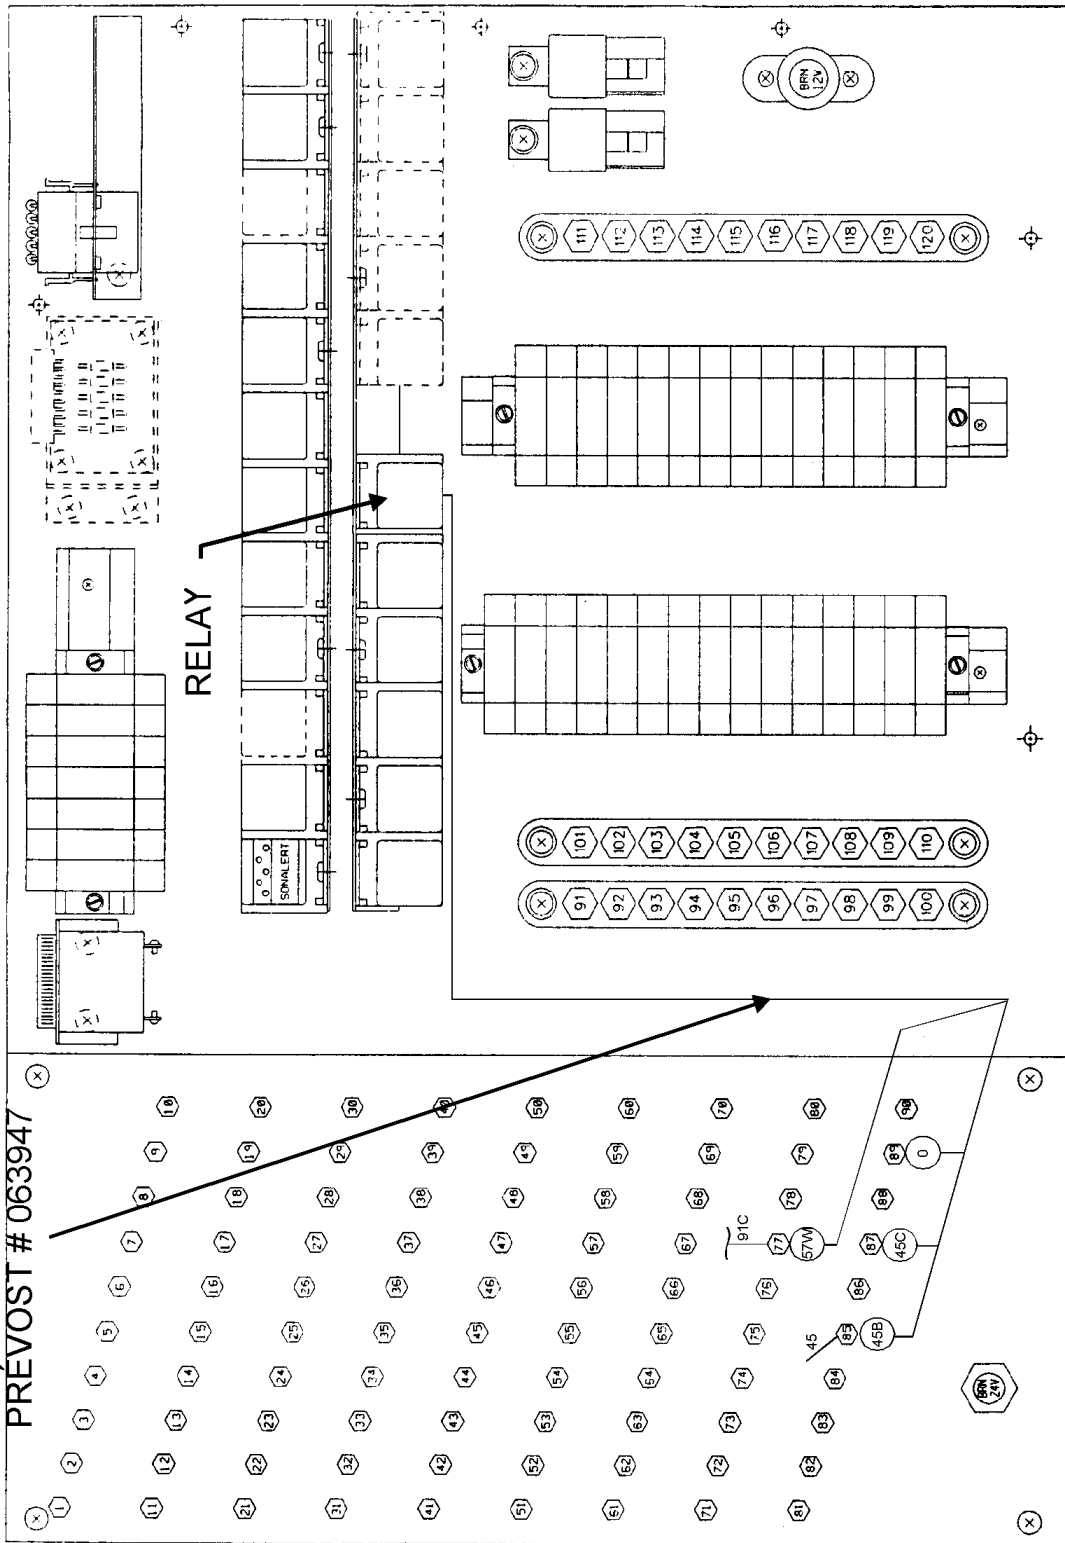

FIGURE 2: FRONT ELECTRICAL COMPARTMENT - DDEC III
WITH SERIES 60 ENGINE, DDEC III (Figure 2)
B) COACH WITH SERIES 60 ENGINE, DDEC III (FIGURE 2)